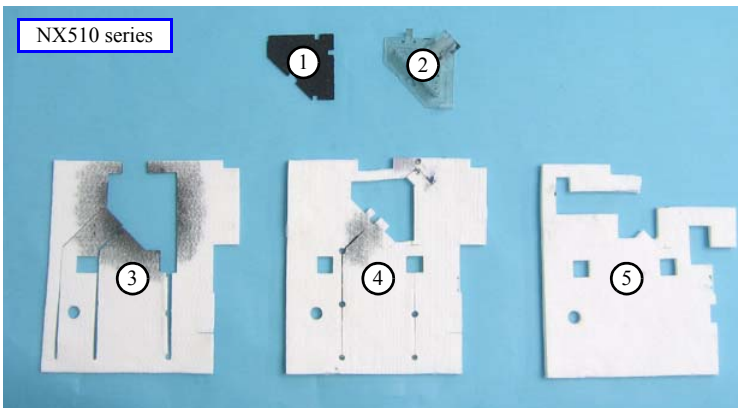

Figure 4-111. Installing the Waste Ink Pads (NX510 series)
- NX510 series: see Figure 4-111.